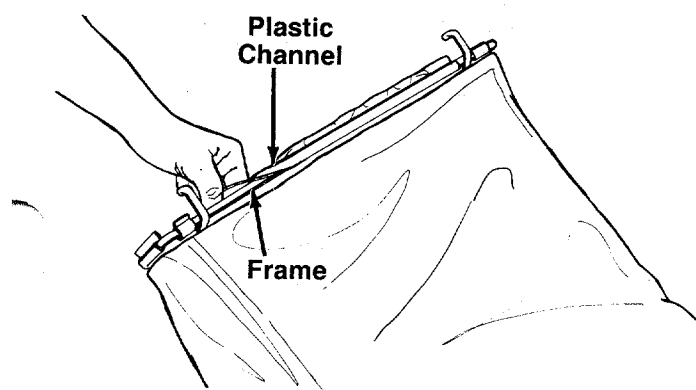

FIGURE 8.
4. Secure front of bag to frame by working the plastic channels on bag over frame. See figure 8.